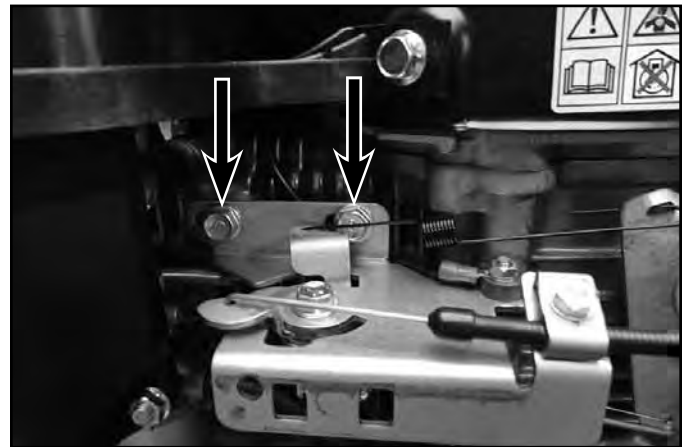

Fig. 138
- a. **Throttle adjustment:** After connecting throttle/choke cable to engine, push throttle lever to detent, then tighten clamp screw making sure choke lever is not activated. Loosen the throttle bracket assembly mounting bolts, adjust bracket forward/aft to achieve desired full-throttle position. Re-tighten bolts (Fig. 138).